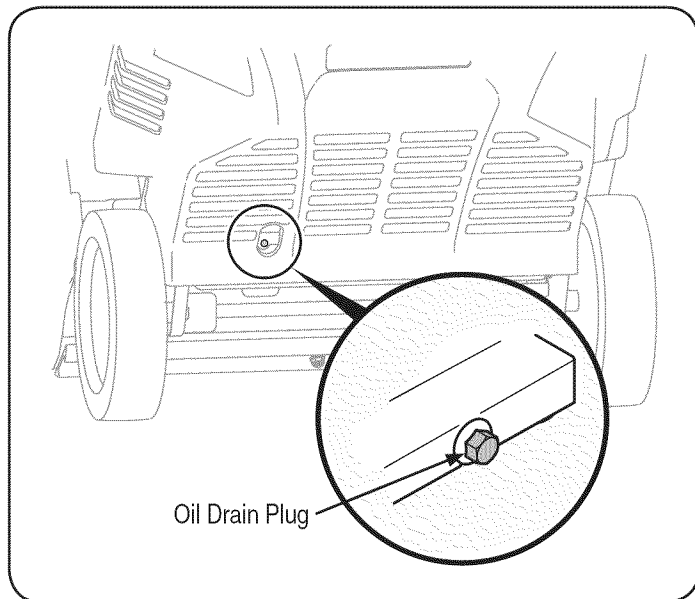

Figure 13
3. Remove the oil drain plug, Figure 13.